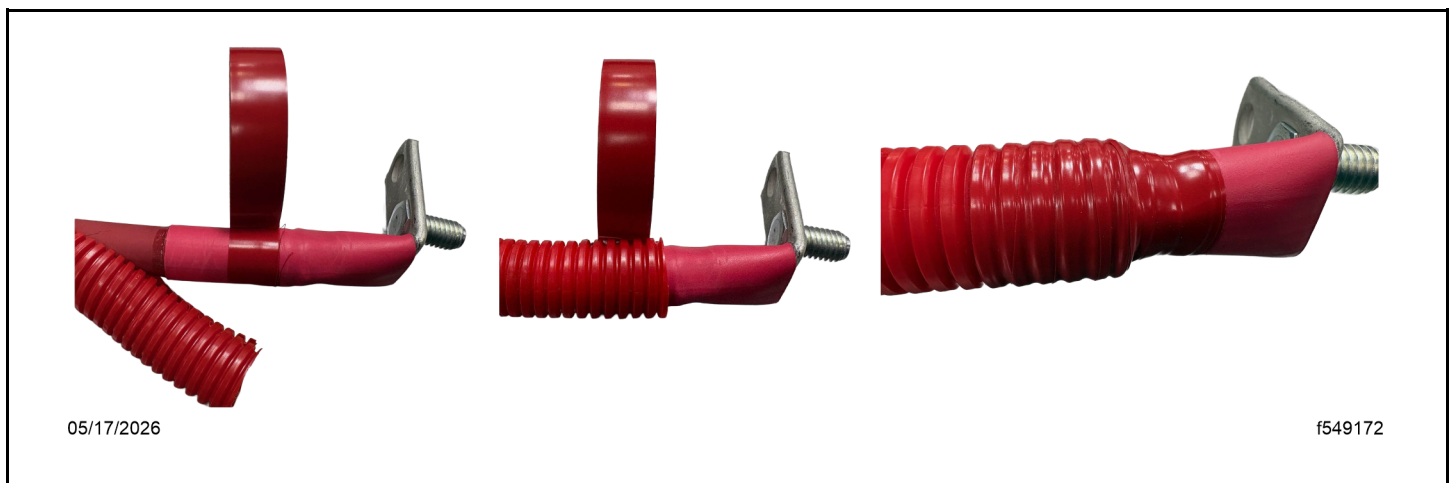

Fig 64, Installing the Convolute Cover
- d. Install the convolute cover by applying red electrical tape to cover the transition from the heat shrink to the convolute cover. See Fig. Fig. 64.